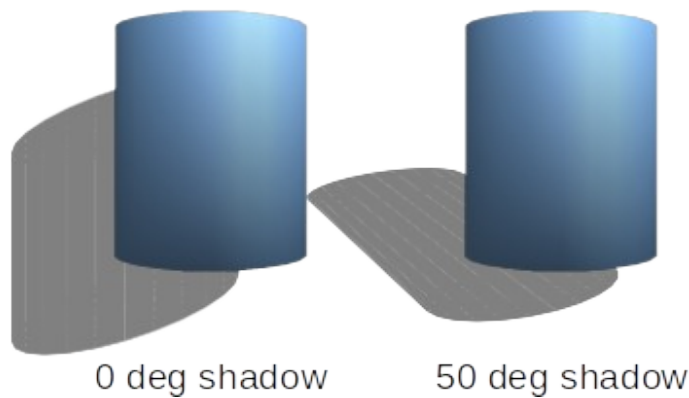

Figure 22: Examples of shadow surface angle
- **Shadow** – adds or removes a shadow from a selected 3D object (Figure 22). A shadow is generated only from the first light source. Enter a *Surface Angle* from the light source to the surface between 0 to 90 degrees to cast a shadow.